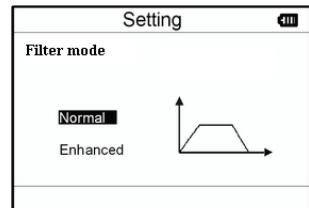

Figure 3-28 Measure Mode Setting
1. On system setting screen, select "Measure mode" to enter measure mode setting screen, as shown in Figure 3-28.